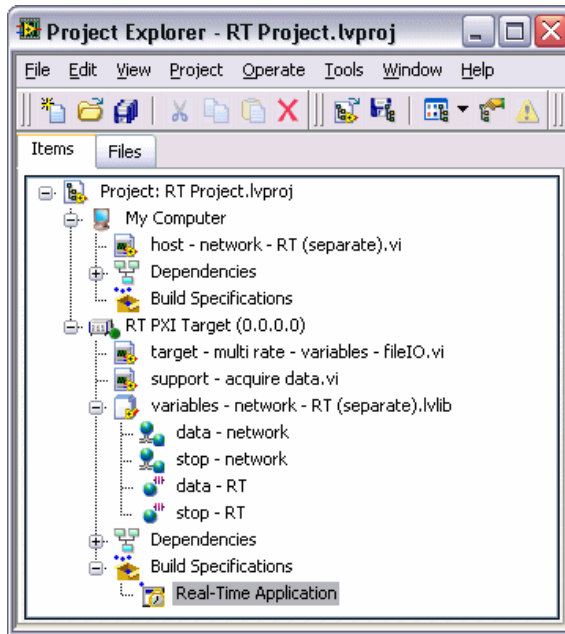

Figure 8. Creating a Build Specification
As shown in Figure 8, the host VI contains a While Loop that reads from the shared variable, data - network, and publishes the data to a waveform chart on the front panel. The host VI also contains a Shared Variable node that writes to the shared variable, stop, allowing you to control the RT target VI from the host computer.
6. Click the **OK** button to accept the settings and close the **Real-Time Application Properties** dialog box. The build specification name appears in the **Project Explorer** window under **Build Specifications** for the RT target, as shown in Figure 8.